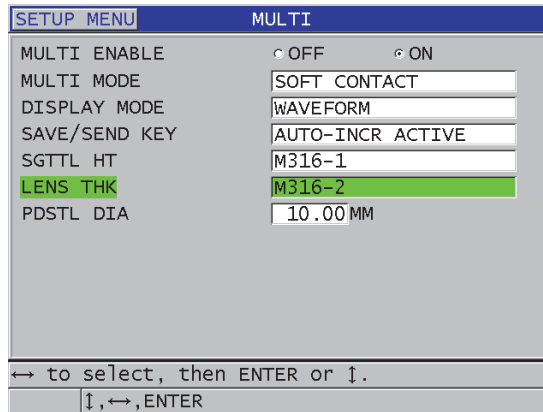

Figure 7-9 Setting multi-measurement parameters in the soft contact mode
5. In the **MULTI** screen (see Figure 7-9 on page 121):